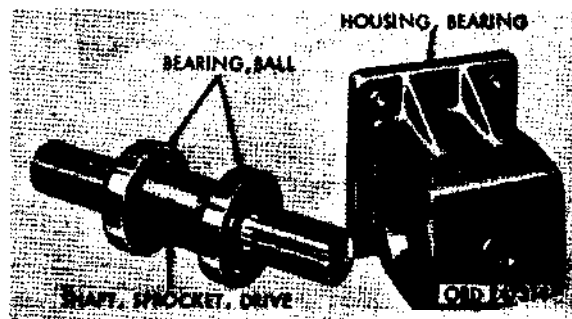

Figure 525. Removal of drive sprocket shaft and bearings from bearing housing
- (4) Repeat procedure for removing opposite bearing cap from housing.
- (5) Remove drive sprocket shaft with ball bearings from bearing housing (fig. 525).